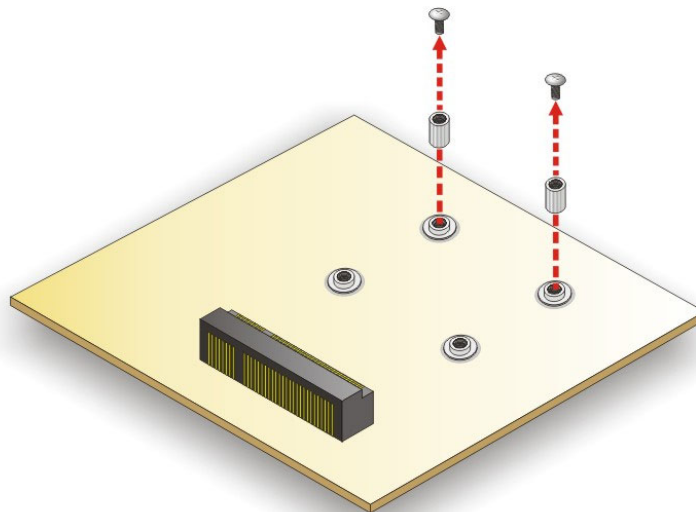

Figure 3-18: Removing the Retention Screws and Standoffs
Step 4: Remove the retention screws and the standoffs secured on the motherboard as shown in Figure 3-18.